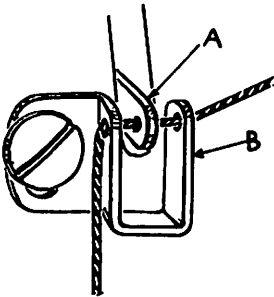

Fig. 15
When the needle bar thread eyelet (A, Fig. 15) is at the bottom of its stroke, the take-up eyelet (B) should be positioned so that a thread drawn through the take-up thread holes and the needle bar thread eyelet hole will form a horizontal line. Also, the needle bar thread eyelet, in its lowest position, should be located in the middle of the needle thread take-up eyelet equidistant from the two take-up eyelet thread holes.